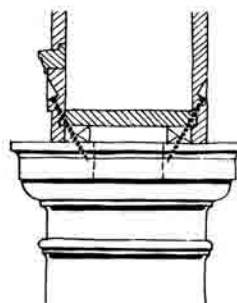

Figure 7-7
1. Drill holes through soffit at an angle that will direct screw into capital (or plug, in the case of ornamental capitals). Attach (Fig. 7-7).